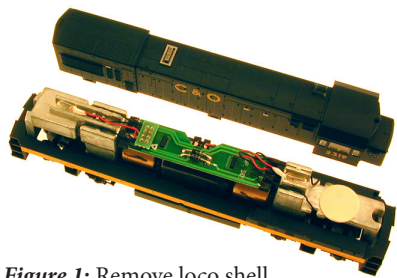

Figure 1: Remove loco shell
1. Carefully remove the locomotive shell. **(Figure 1)** Note the orientation to the frame for correct re-installation.